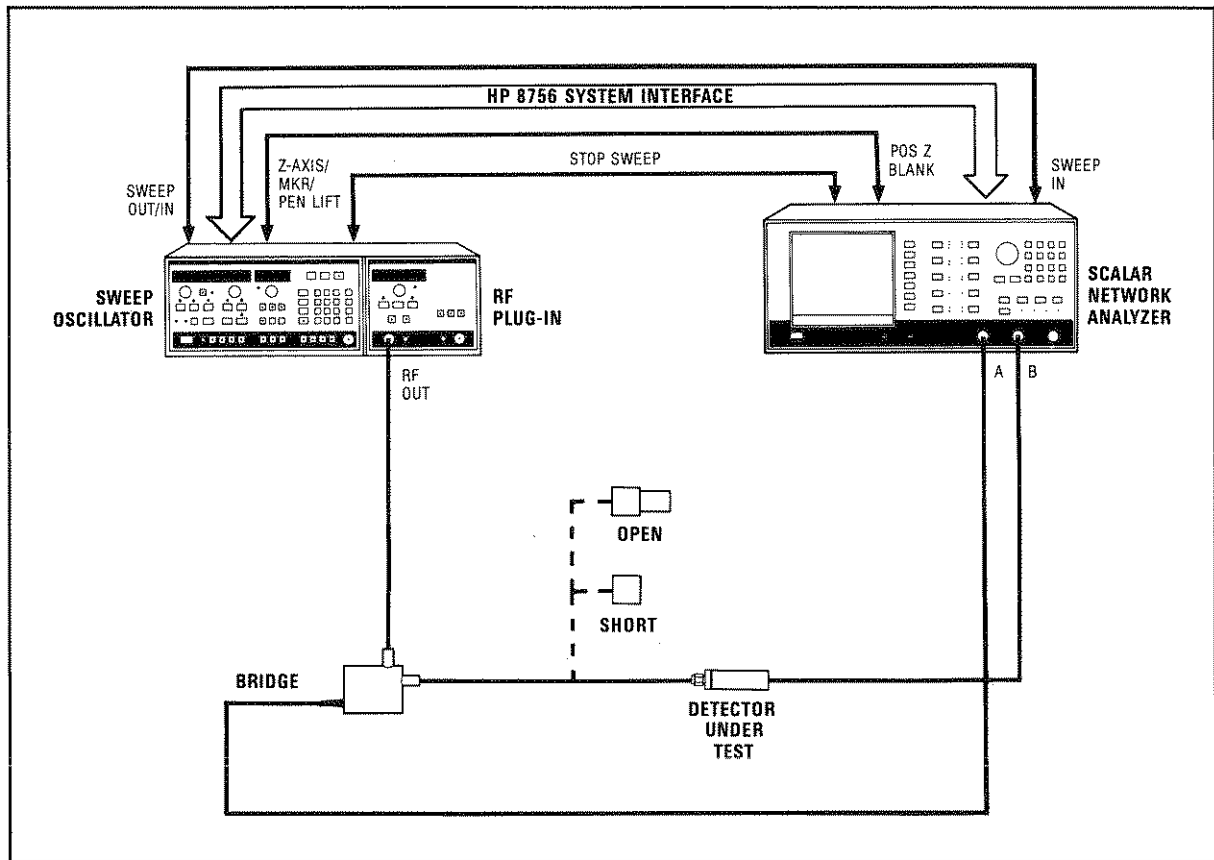

Figure 4. Return Loss Test Setup
- Set up the equipment as shown in Figure 4, with nothing connected to the bridge **TEST PORT**.